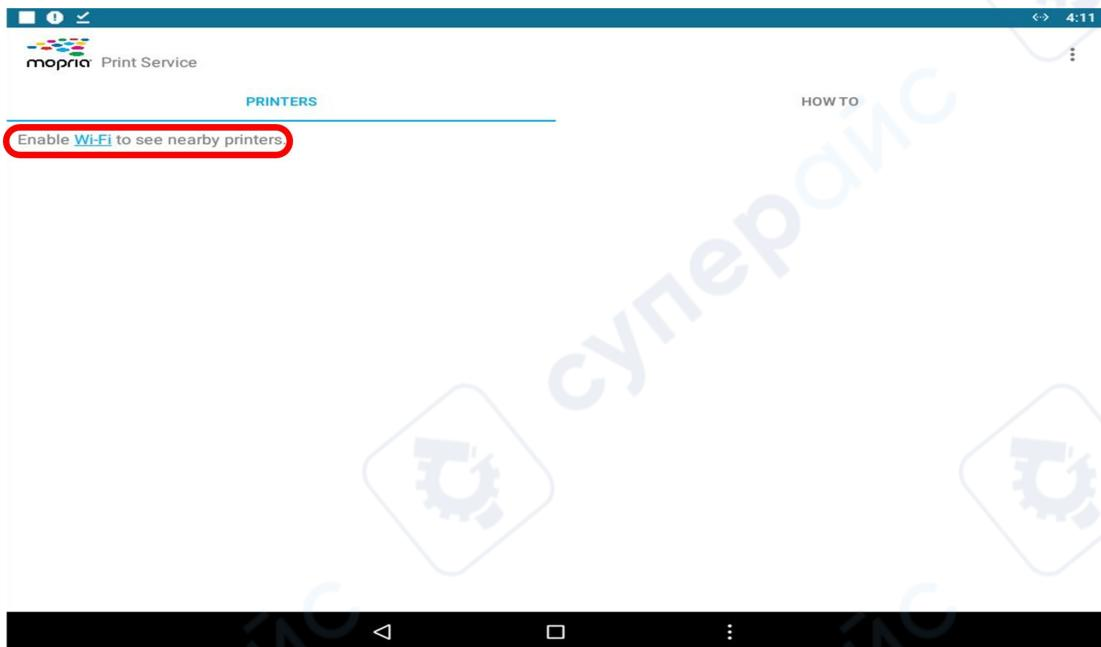

Figure 8
4、After entering the printing software interface, click "Enable Wi-Fi to see nearby printers" to connect the printer's Wi-Fi, as shown in Figure 8. The Wi-Fi connection is successful, as shown in Figure 9.